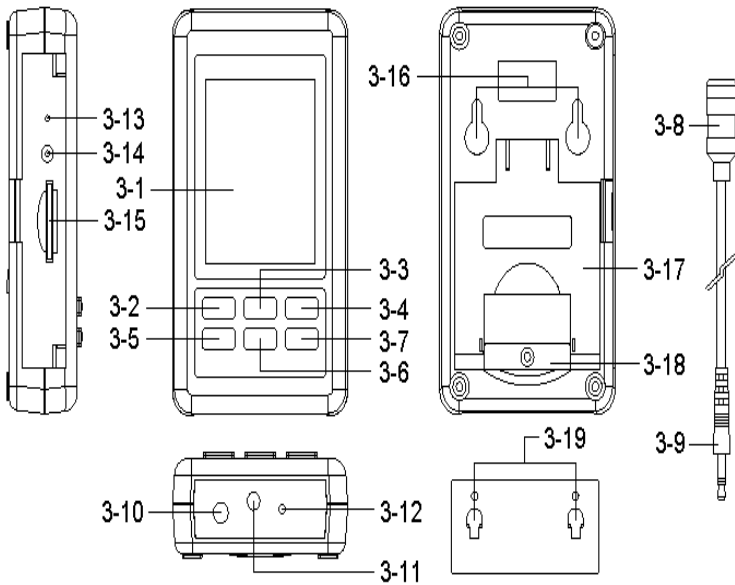

Fig. 1
- 1) Power ON the meter by pressing and holding the " Power Button " ( 3-2, Fig. 1 )for at least 1.5 seconds, the meter's default function is " A"( frequency weighting) , " Fast"( time weighting) " Auto range ". The LCD display will show the Symbol " A, FAST , xx.x dB , 0 ".
- 3) According to various measuring sound source, select the Time Weighting ( Fast or Slow ) by pressing " ENTER Button " ( 3-7 , Fig. 1 ).
- 1) In " SPL " mode to select the " **Dose** " mode by pressing and holding the " RUN button " ( 3-4 Fig 1 ) into the DOSE mode .
- 4) According to various measuring sound source, select the Time Weighting ( Fast or Slow ) by pressing the "ENTER Button " ( 3-7, Fig. 1 ).
During the SPL measurement, press the " ▲ Button " ( 3-3, Fig. 1 ) once will hold the measured value & the LCD will display a " HOLD " symbol.
1) The data record function records the maximum and minimum readings. Press the " RUN Button " ( 3-4, Fig.1 ) once to start the Data Record function and display is shown the " REC " symbol .
- a) Press the " RUN Button " ( 3-4, Fig. 1 ) once, the " REC MAX " symbol along with the maximum value will appear on the display. Press the " RUN Button" again the " REC MIN " symbol along with the minimum value will appear on the display. Press the " RUN Button" again will show the " REC " symbol only & execute the memory function continuously.
After power ON, the " LCD Backlight " will light automatically. During the measurement, press the " POWER Button " ( 3-2, Fig. 1 ) once will turn off the " LCD Backlight ".
Pressing and holding the " ENTER Button "( 3-7, Fig. 1 ) once , display is shown " LOGGER " , the " LOGGER " will flashing at the same time the measuring data along the time information will be saved into the memory circuit(EEPROM). and the top right will record items.
During execute the Datalogger function , if press the " ENTER Button " ( 3-7, Fig. 1 ) once will pause the Datalogger function ( stop to save the measuring data into the memory circuit temporality ). In the same time the text of " LOGGER " will stop flashing.
*If press the " ENTER Button " ( 3-7, Fig. 1 ) once again will execute the Datalogger again, the text of " LOGGER " will flashing .*
Press the " ENTER Button "( 3-7, Fig. 1) continuously at least two seconds, the " LOGGER " indicator will be disappeared and finish the Datalogger.
Prepare a " SD memory card " ( 1 GB to 16 GB, optional ), insert the SD card into the " SD card socket " ( 3-15, Fig. 1). The front panel of the SD card should face against the down case.